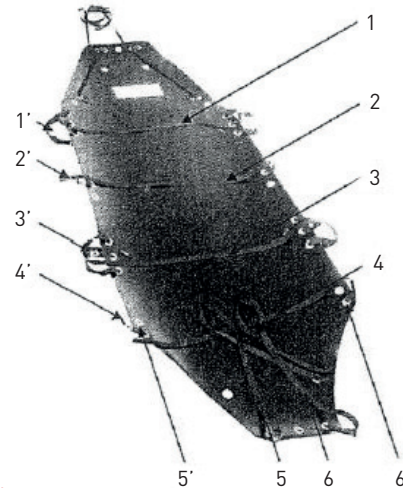

Figure 1
- Proceeding from the feet towards the head take each long tightening strap (Figure 1, Items 1-4) and pass it through the buckle on the short strap opposite (Figure 1, Items 1'-4'). Tighten so that edges of the stretcher fit snugly around the person.
- Take the left hand connecting strap at the bottom of the stretcher (Figure 1, Item 5) and pass through the free ring (Figure 1, Item 5'). Subsequently pass the strap back through the buckle on the same strap and tighten. Repeat for the right hand connecting strap (Figure 1, Item 6). Ensure that the injured person's toes do not protrude outside the edge of the stretcher.